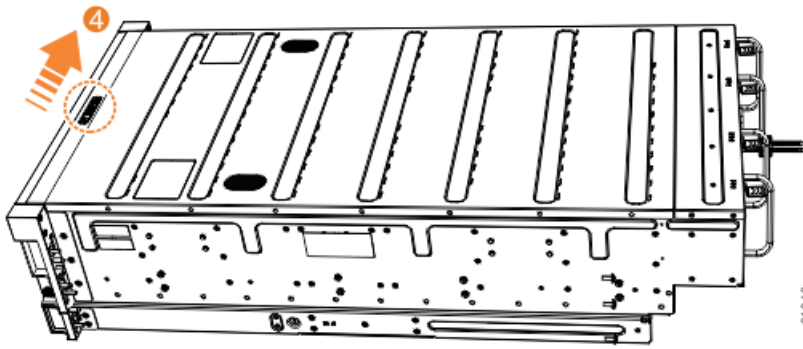

Figure 37. Locking the top cover
5. Lock the cover into position by sliding the release lever (4), as shown in Figure 37 on page 55